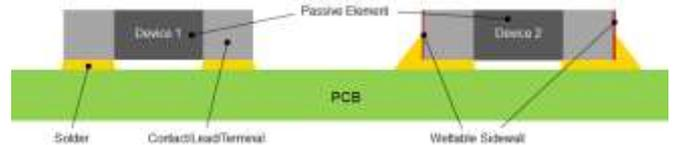

Fig. 1. Discrete component connection with PCB.
- Passive SMDs in Fig. 1 include resistors, capacitors, inductors, transformers, and diodes (*i.e.* ESD diodes)